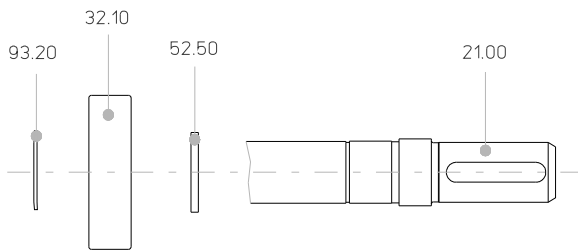

fig. 4
12. Take off the circlip 93.20 by means of a burst-off pliers and pull the antifriction bearing 32.10 and the spacer 52.50 from the shaft 21.00. (fig. 4)